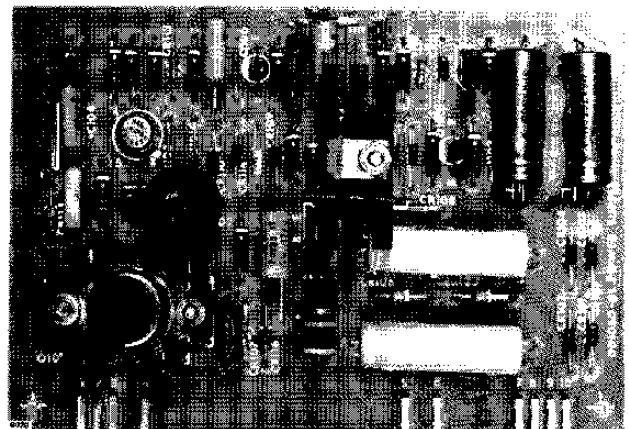

Figure 7—Power Supply Board
**Power Supply - Board No. 4**—The power supply board (Figure 7) provides regulated dc voltage for the amplifiers, relay drive voltage and +290 vdc for the detectors.